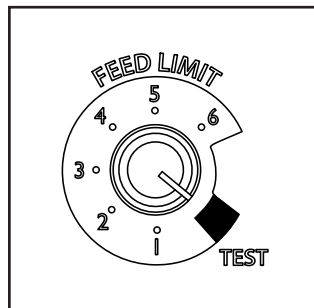

Figure 4.2
3. For your first fire it may be necessary to purge the auger system by putting the feed limit knob to "Test" prior to starting the unit. Figure 4.2. This insures that plenty of fuel enters the burn pot for proper ignition.